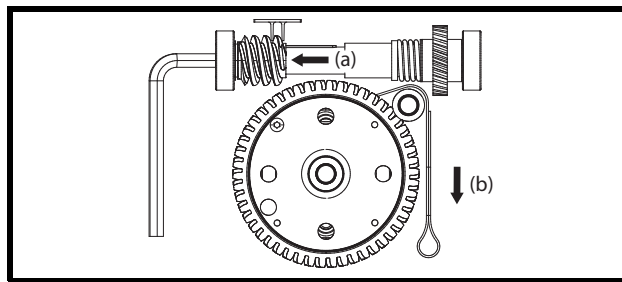

Fig. 12
- 3) Disengage the transmission with an 8 mm Allen key (see Fig. 12).